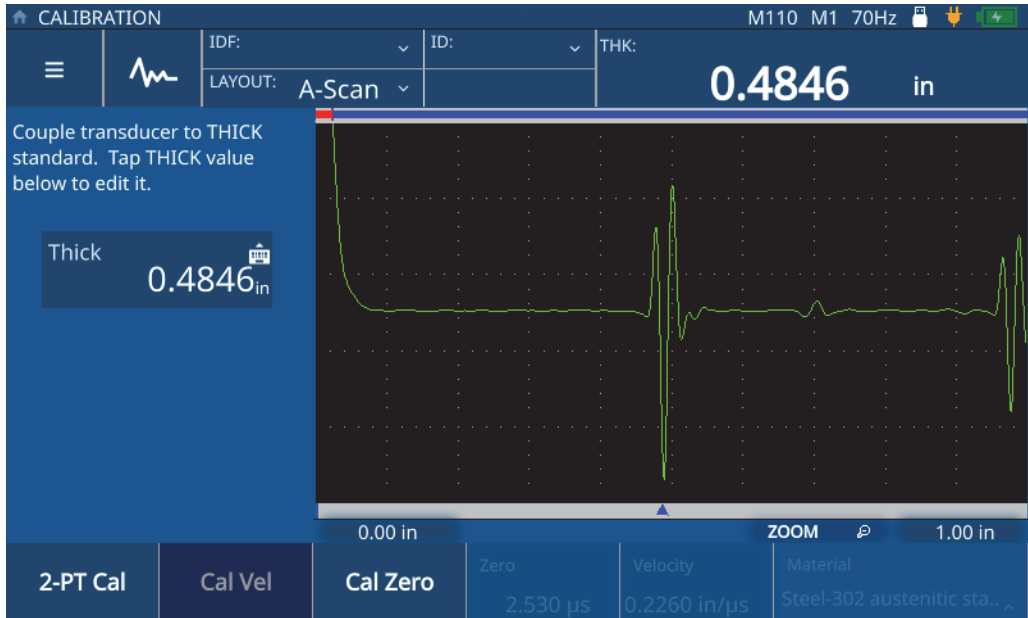

Figure 5-8 Velocity Calibration (2-PT Calibration)
4. Follow the screen prompts providing calibration instructions, and couple the transducer to the sample with a known maximum thickness (see Figure 5-8 on page 47).